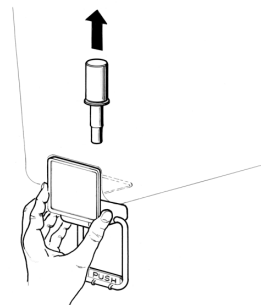

figure 3
- 6 Gravity faucet:** extract the piston and then remove the dispensing handle (see figure 3).